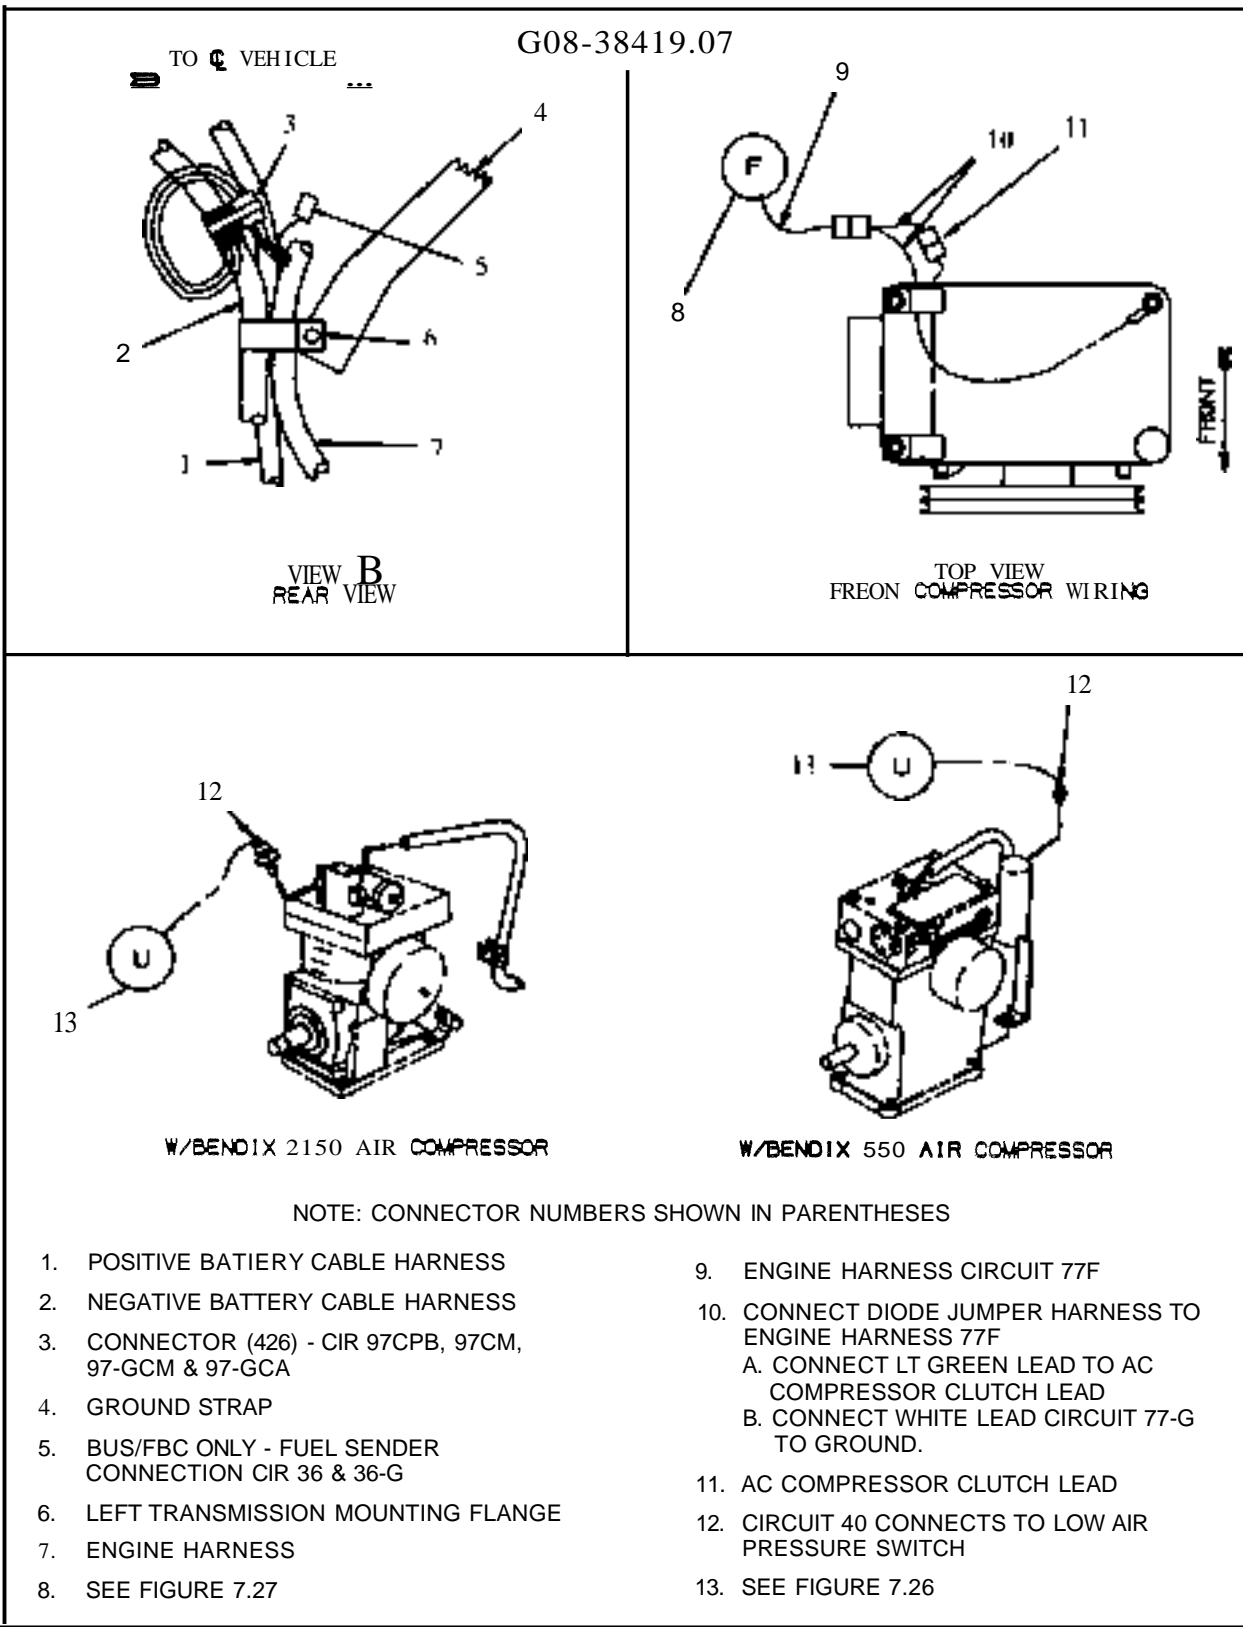

Figure 7.28 - V8 Electronic Engine Wiring (Truck & FBe)
12. CONNECTOR (426F) TO NEG BATTERY CABLE (SEE FIGURE 7.28 VIEW B)